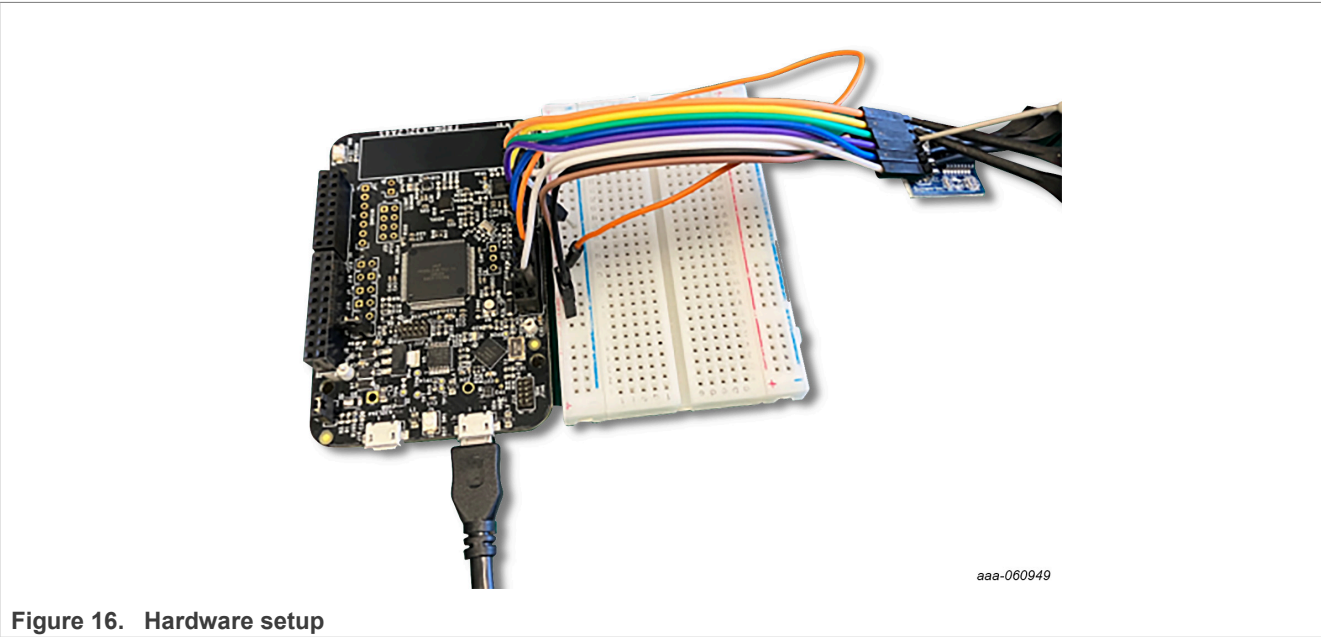

Figure 16. Hardware setup
2. Connect the board and PC via USB, as shown in Figure 16.